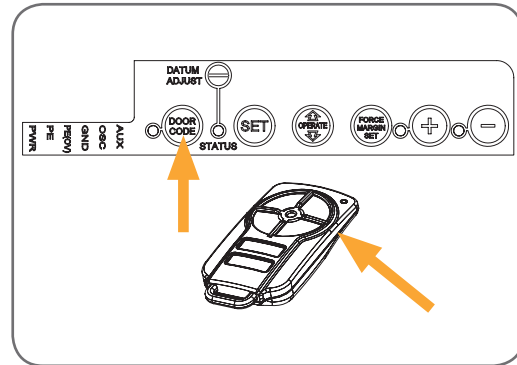

fig 41
- Briefly press the DOOR CODE button three times, then press it again and hold (will beep four times on fourth press (**Fig. 41**)).
- Press one of the four buttons on the transmitter for two (2) seconds, pause for two (2) seconds, then press the same button again for two (2) seconds.